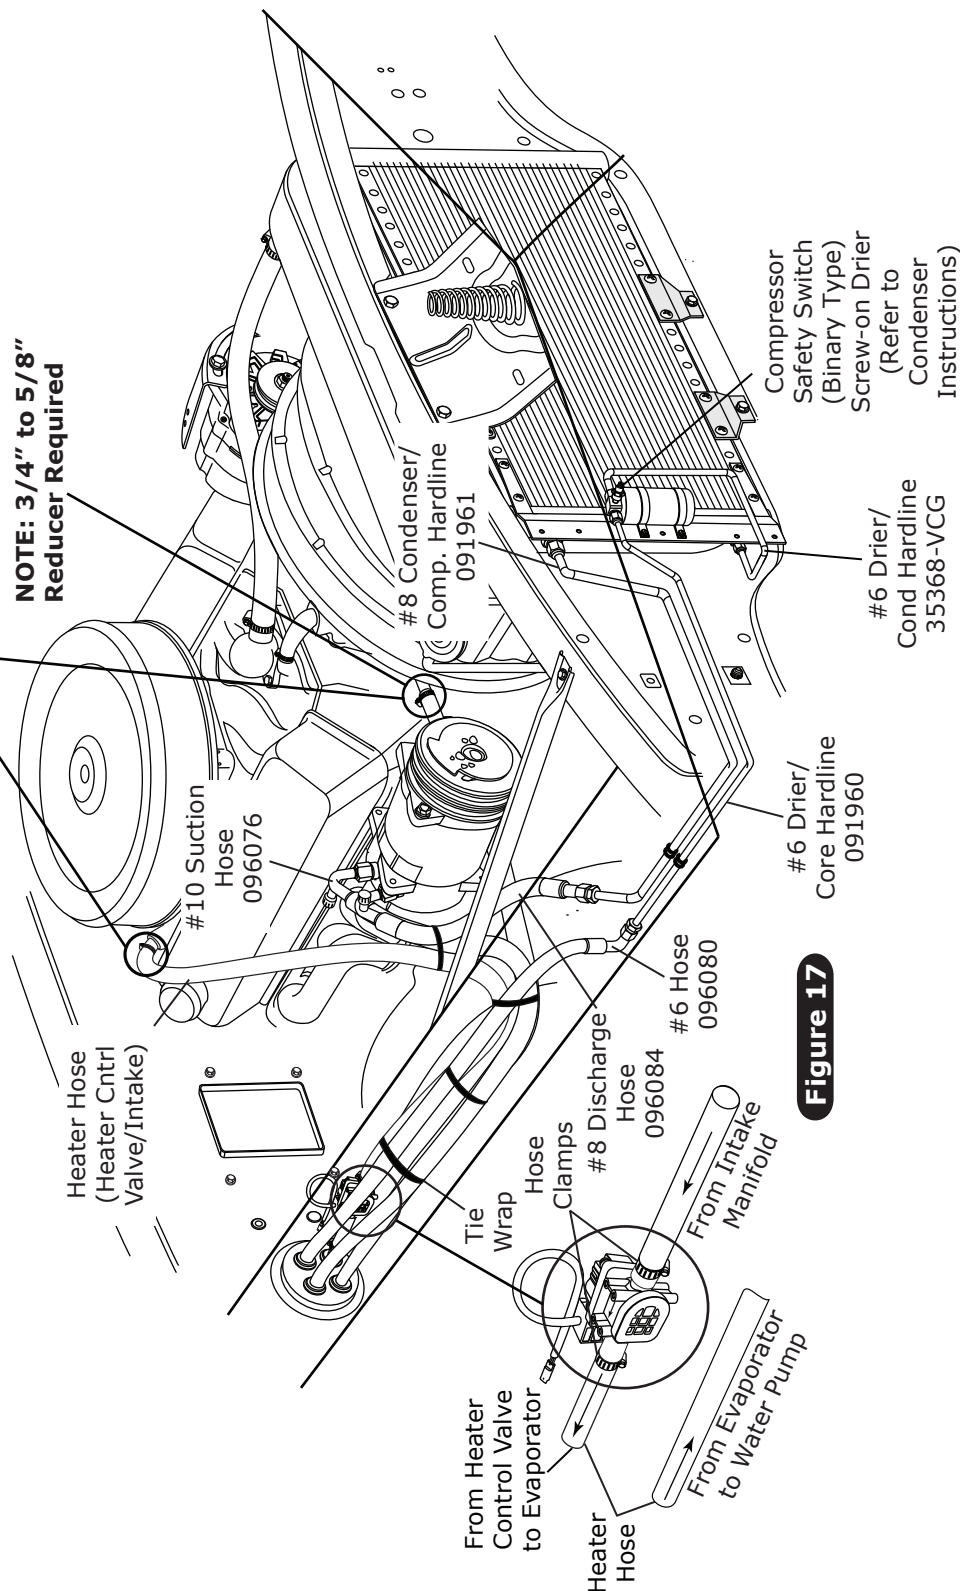

Figure 17
1. Locate the #8 compressor A/C hose. Lubricate (2) #8 O-rings (See Figure 16, above) and connect the 135° female fitting w/ 134a service port to the #8 discharge port on the compressor. Route the straight female fitting to the #8 condenser hardline coming through the core support (See Figure 17, Page 17). Tighten each fitting connection as shown in Figure 16, above.
2. Locate the #10 compressor A/C hose. Lubricate (2) #10 O-rings (See Figure 16, above) and connect the #10 135° female fitting w/134a service port to the #10 suction port on the compressor. Route the 90° female fitting to the #10 evaporator (See Figure 14a, Page 15, and Figure 17, Page 17). Tighten each fitting connection as shown in Figure 16, above.
3. Locate the #6 evaporator A/C hose. Lubricate (2) #6 O-rings (See Figure 16, above) and connect the 90° female fitting to the #6 hardline coming through the core support from the drier. Route the 90° female fitting to the #6 evaporator (See Figure 14a, Page 15, and Figure 17, Page 17). Tighten each fitting connection as shown in Figure 17, above.
1. Route a piece of heater hose from the water pump to the top heater fitting of the heater core as shown in Figure 14a, Page 15, and Figure 17, below. Secure using hose clamps.
2. Route a piece of heater hose from the intake to the bottom heater fitting of the heater core as shown in Figure 14a, Page 15, and Figure 17, below. **NOTE: Install heater control valve in line with intake manifold (pressure side) heater hose, and secure using hose clamps as shown in Figure 17, below. Also note proper flow direction.**